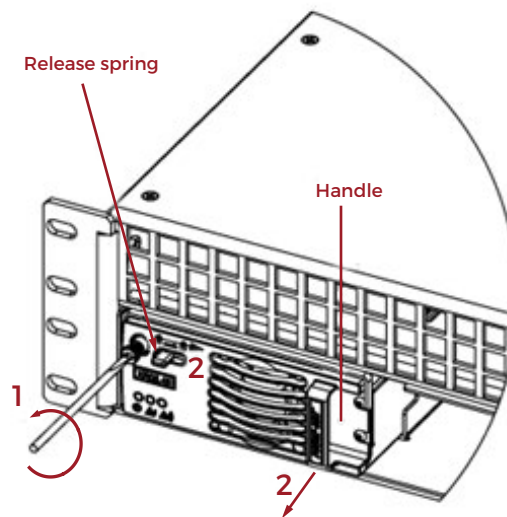

Figure 7-3 Replacing an XR04.48 or XR08.48 Rectifier
1. Loosen the screw on the rectifier front panel using a screwdriver, Figure 7-3 (1).
2. Push the release spring to the right and at the same time pull the handle to remove the rectifier from the slot, Figure 7-3 (2).